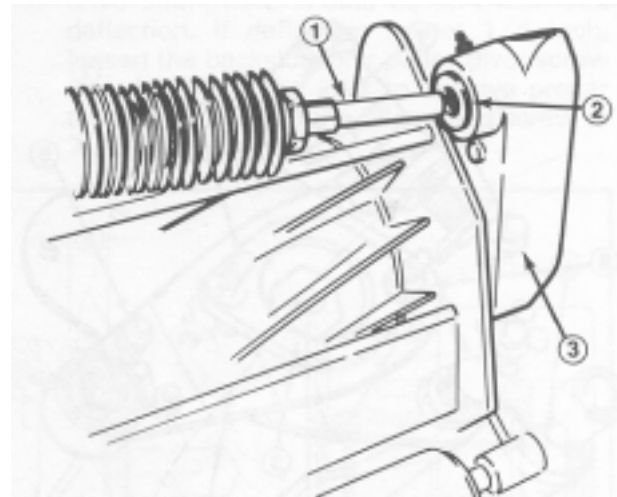
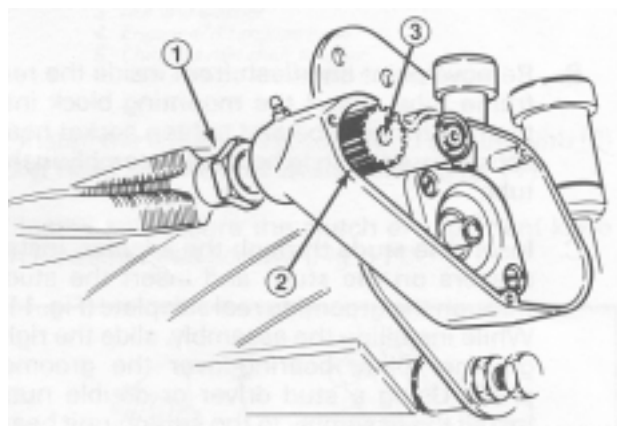

Figure 9
Figure 10
10. Slide the grooming shaft assembly into the bearing support in the left belt housing (Fig. 9). Using a 3/8" allen socket and torque wrench, install the driven pulley (left-hand thread) and torque to 29-32 ft-lb (Fig. 10).